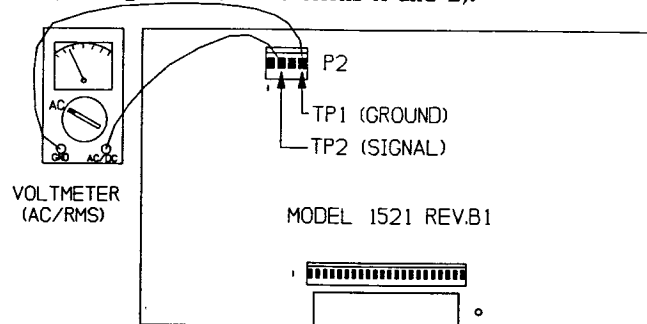
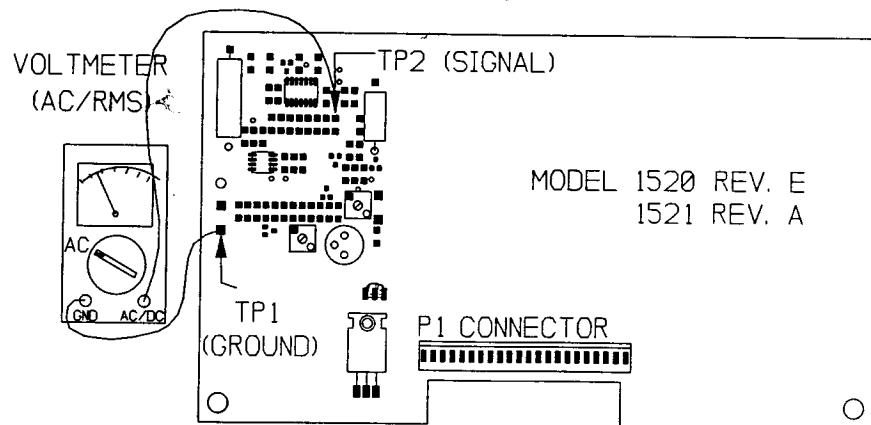

FIGURE 10: VOLTMETER/RECEIVER CONNECTIONS—REVISION B1
FIGURE 11: VOLTMETER/RECEIVER CONNECTIONS—REVISIONS A AND E
1. Connect a voltmeter (set to AC) to the receiver as shown in figure 10 (for revision B1) or figure 11 (for revisions A and E).